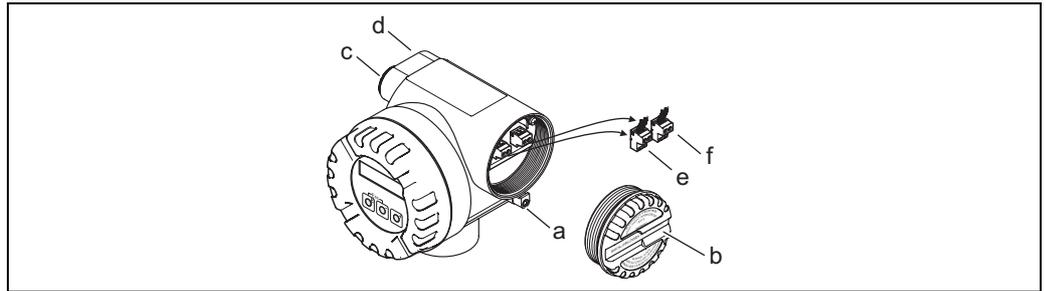

Fig. 15: Connecting the transmitter, Ex d version
5. Pull the terminal connector (g) out of the transmitter housing and connect the cable for the power supply/current output. (→ Fig. 15, A)
Optional: pull terminal connector (h) out of the transmitter housing and connect the cable for the pulse output/frequency output. (→ Fig. 15, B)
secure the ground cable to the ground terminal (→ Fig. 15, C).
### Connecting the transmitter, Ex-d → Fig. 15
4. Pull the terminal connector (e) out of the transmitter housing and connect the cable for the power supply/current output. (→ Fig. 15, A)
Optional: pull terminal connector (f) out of the transmitter housing and connect the cable for the pulse output/frequency output. (→ Fig. 15, B)